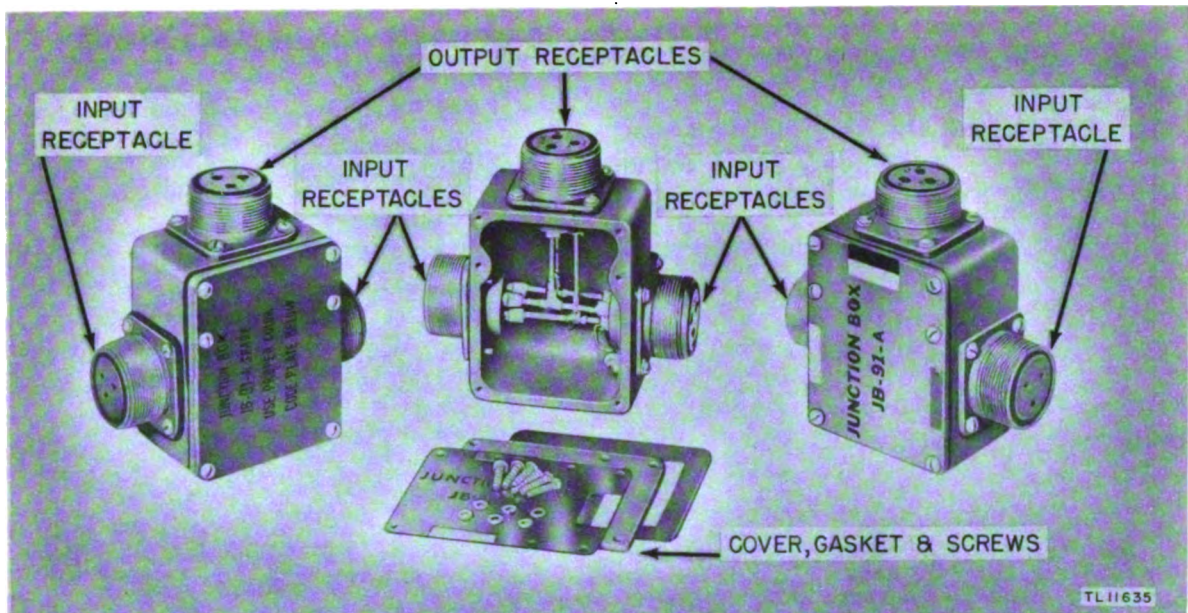

Figure 7. Junction Box JB-91-A.
(7) *Junction Box JB-91-A*. Junction Box JB-91-A (fig. 7) contains the cross-over connections for the r-f transmission lines from the U-Adcock antenna of the array. It consists of a casting with three receptacles and connecting wiring. Color coding on the cover plate next to the receptacles corresponds to the coding of the mating plugs.